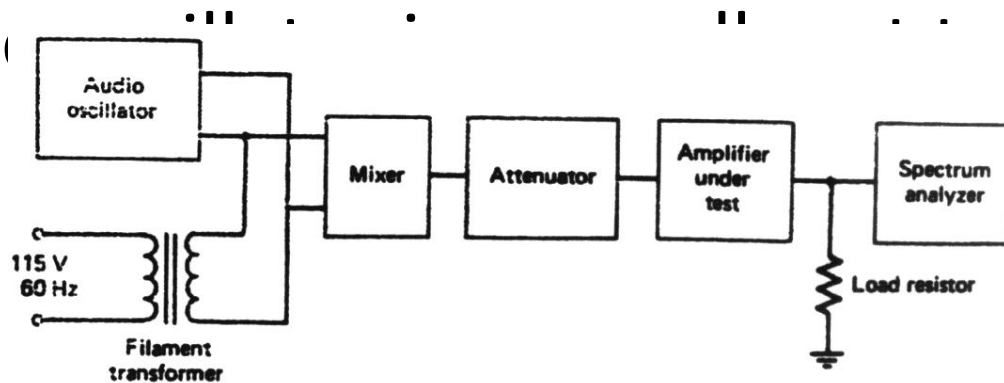

Fig.14 Using the spectrum analyzer to measure intermodulation distortion.
- The spectrum analyzer can be used to measure the intermodulation distortion, as shown in the circuit in Fig14. The frequency of the audio